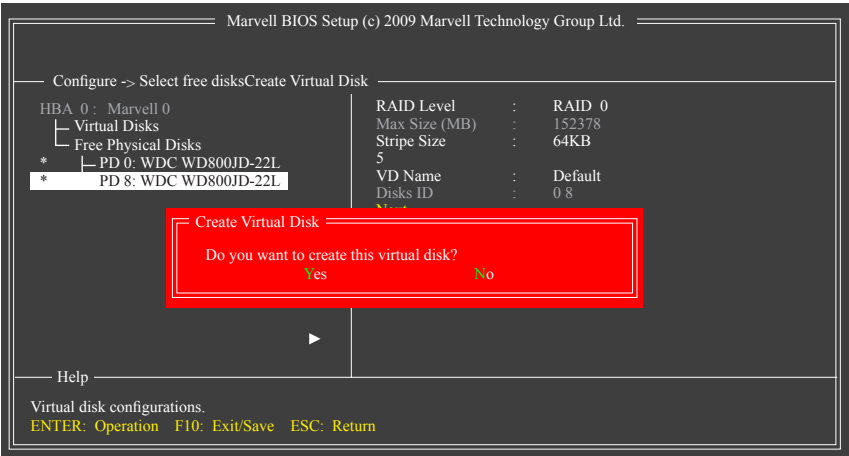

Figure 5
6. **Next:** After completing the settings above, move to **Next** and press <Enter> to begin creating the array. When prompted to confirm whether to create this array, press <Y> to confirm or <N> to cancel (Figure 5).